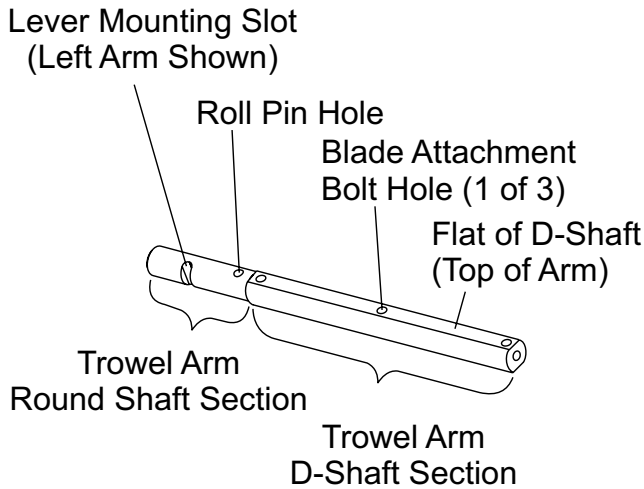
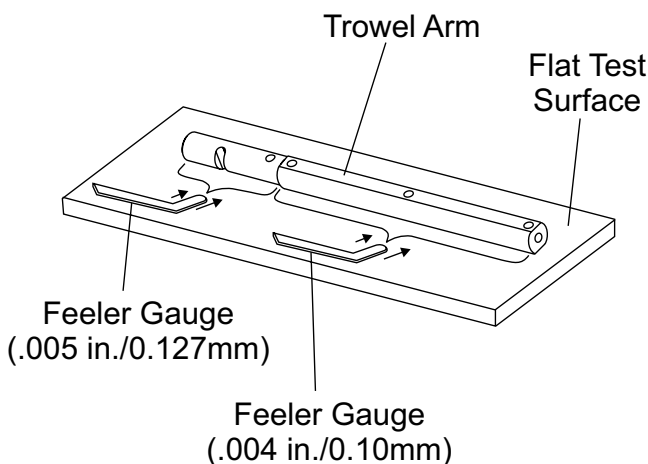

Figure 40. Trowel Arm
Figure 41. Checking Trowel Arm Flatness
Trowel arms can be damaged by rough handling, (such as dropping the trowel on the pad), or by striking exposed plumbing, forms, or rebar while in operation. A bent trowel arm will not allow the trowel to operate in a smooth fluid rotation. If bent trowel arms are suspect, check for flatness as follows, refer to Figure 40 and Figure 41:
2. Check each of the six sides of the trowel arm (hex section). A feeler gauge of .004" (0.10 mm) should not pass between the flat of the trowel arm and the test surface along its length on the test surface. (Figure 41) .